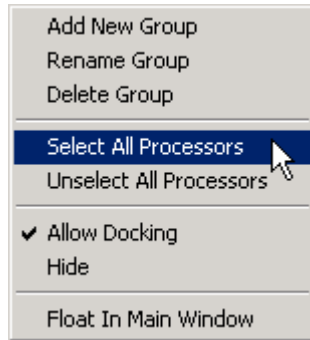

Figure 3-48. Moving All Processors into the Default Group
3. Choose Select All Processors from the popup menu, shown in Figure 3-48.